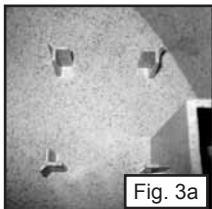

Fig. 3a
- 1) Replace the pump into its location in between the three posts on the right side of the fountain. Gently push down to engage the suction cups. (Fig. 3a & 3b)